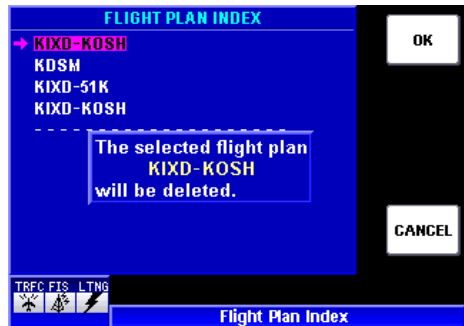

Figure 1-137
2. Press the **DELETE** Softkey and Figure 1-137 will be displayed to verify the deletion of the active flight plan.